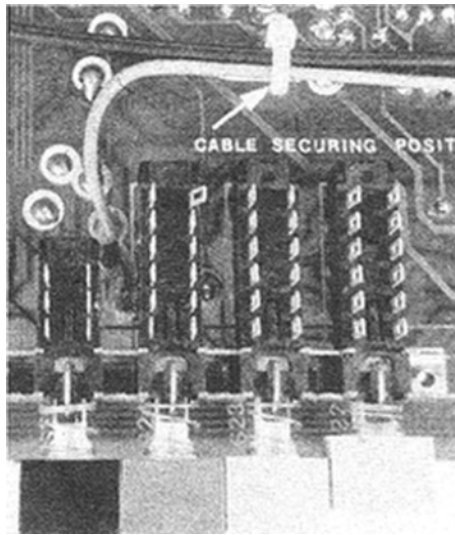
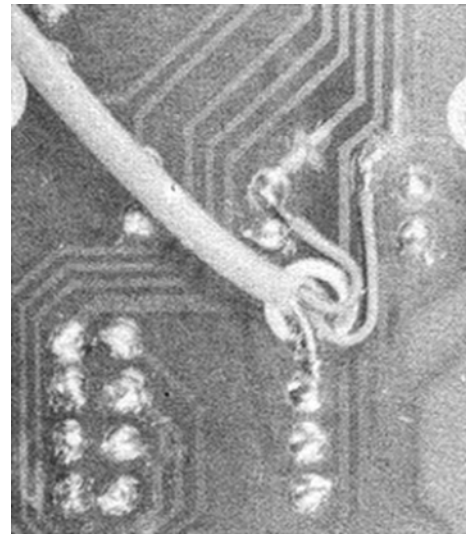
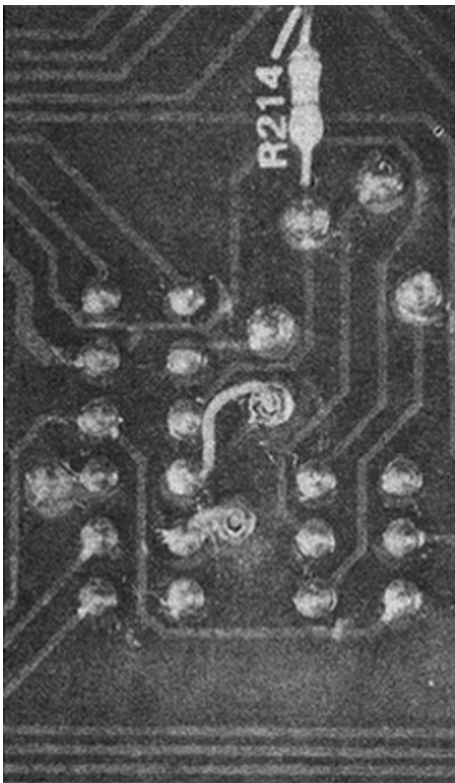
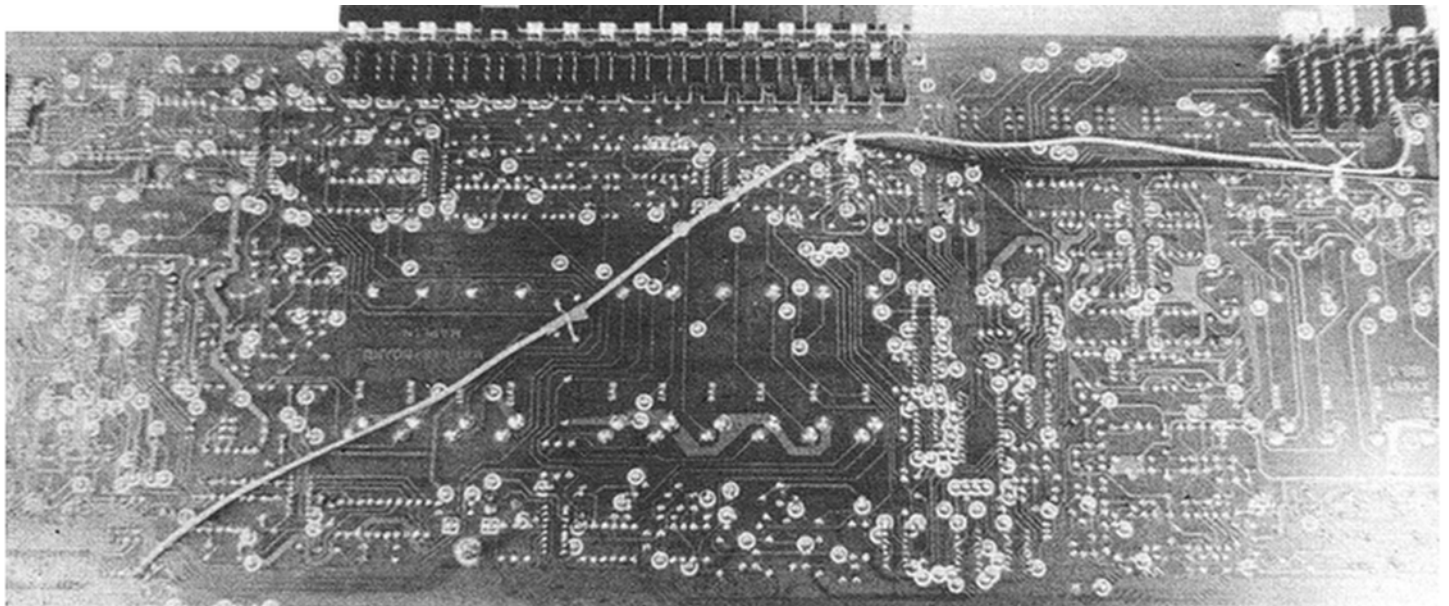

Figure 10. Underside of part of the PCB shown in Figure 9. See note 22.
Figure 12. IC4 end of cable run. See note 22.
Figure 9. Connections to S24b. See note 22.
Figure 11. Cable run. See note 22.
- centre wires of a 1 metre length of screened wire as shown in Figure 9. Connect the red wire to pin 2 and the blue wire to pin 3 of S24b. On the underside of the PCB cut back the screen and insulate it. See Figure 10. Run the cable as shown in Figure 11. At the other end cut the track by scratching it away with a small screwdriver or sharp point close to the point where D83 and D84 are joined. Also cut the track which leads to pin 33 of IC4. Connect the red wire to the end of D83 or D84 closest to the cut track and the blue wire to the track between the cut and pin 33 of IC4 after carefully scratching off the solder resist. Connect the screen to the track pin marked by the white circle near D83 and D84. See Figure 12.